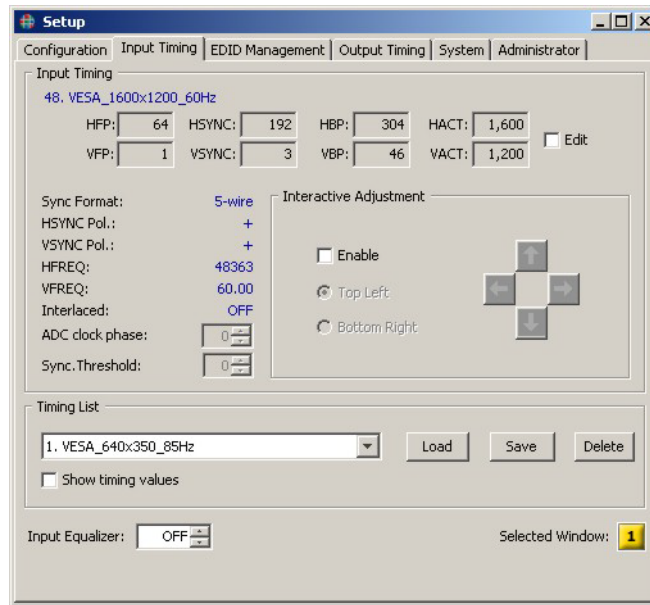

Figure 4-2 Setup Input Timing Tab
3. Click on the **Input Timing** tab (Figure 4-2).